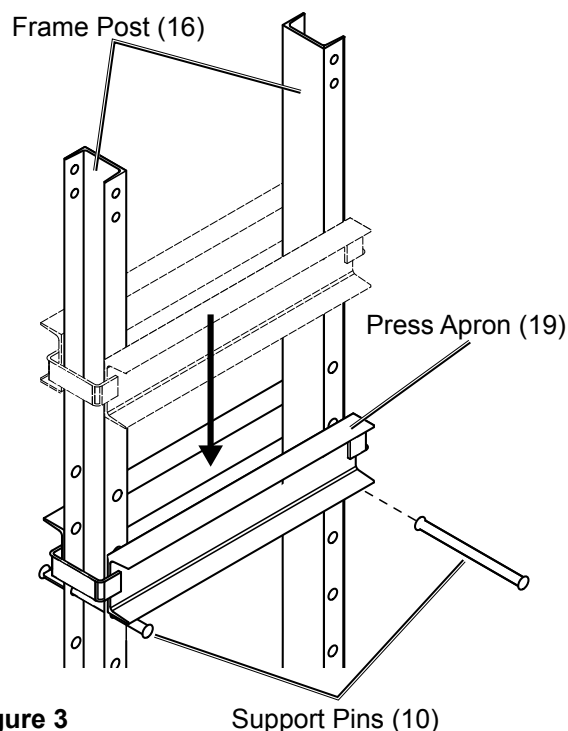

Figure 3
2. Slide each Base Section (21) under the Frame Posts (16), and place the Bottom Frame Support (22) between them. Line up the bolt holes and insert the Bolts (14) through the Frame Posts, Base Sections, and Bottom Frame Support, then secure in place with the Washers (12) and Nuts (13).
5. Slide the Support Pins (10) into the holes in the Frame Posts (16). With assistance, lift the Press Apron (19) to the top of the Frame Posts, then lower into place down the Frame Posts so the Press Apron rests on the Support Pins. See Figure 3.